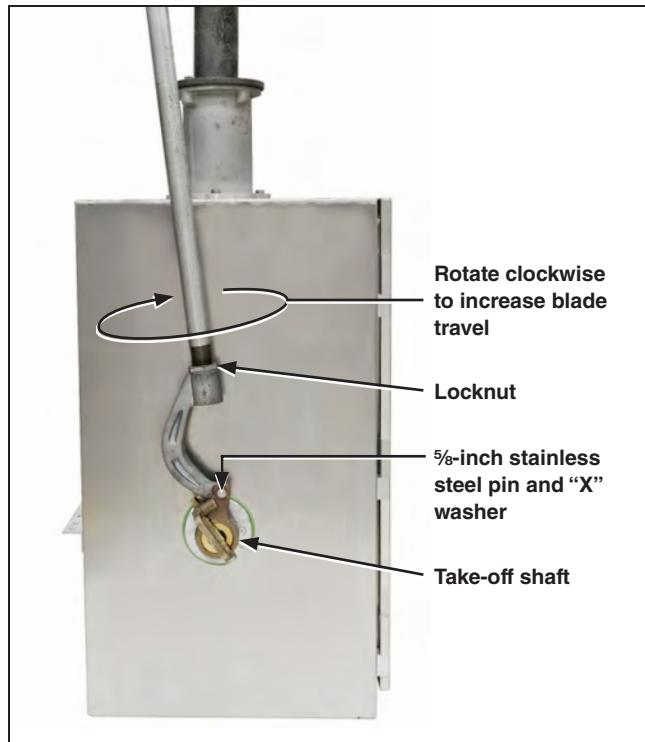

Figure 25. The rear of switch operator.
- Attach the "C"-shaped clevis at the lower end of the vertical-operating-pipe assembly to the take-off shaft on the rear of the operator using a $\frac{5}{8}$ -inch stainless steel pin and stainless steel "X" washer furnished. See Figure 25.
If necessary, loosen the locknuts at the top and bottom of the vertical operating pipe, and rotate the pipe *counterclockwise* (as viewed from the top) to increase blade travel. Tighten the locknuts. See Figure 25 on page 23.
If the disconnect blades are not open to this extent, loosen the locknuts at the top and bottom of the vertical operating pipe and rotate the pipe clockwise (as viewed from the top) to increase blade travel, and tighten the locknuts. See Figure 25 on page 23.